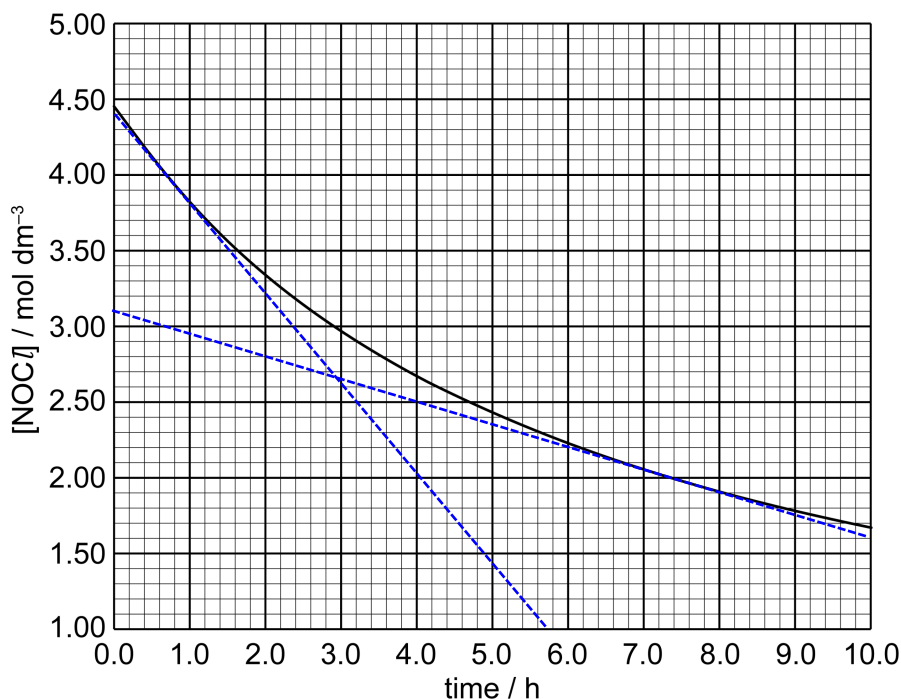

Fig. 1.1
- (c) The change in the concentration of  $\text{NOCl}$  was monitored as the decomposition reaction occurred over time. The data obtained is shown in Fig. 1.1.
- (i) Using Fig. 1.1, show that the reaction is second order with respect to  $\text{NOCl}$ .